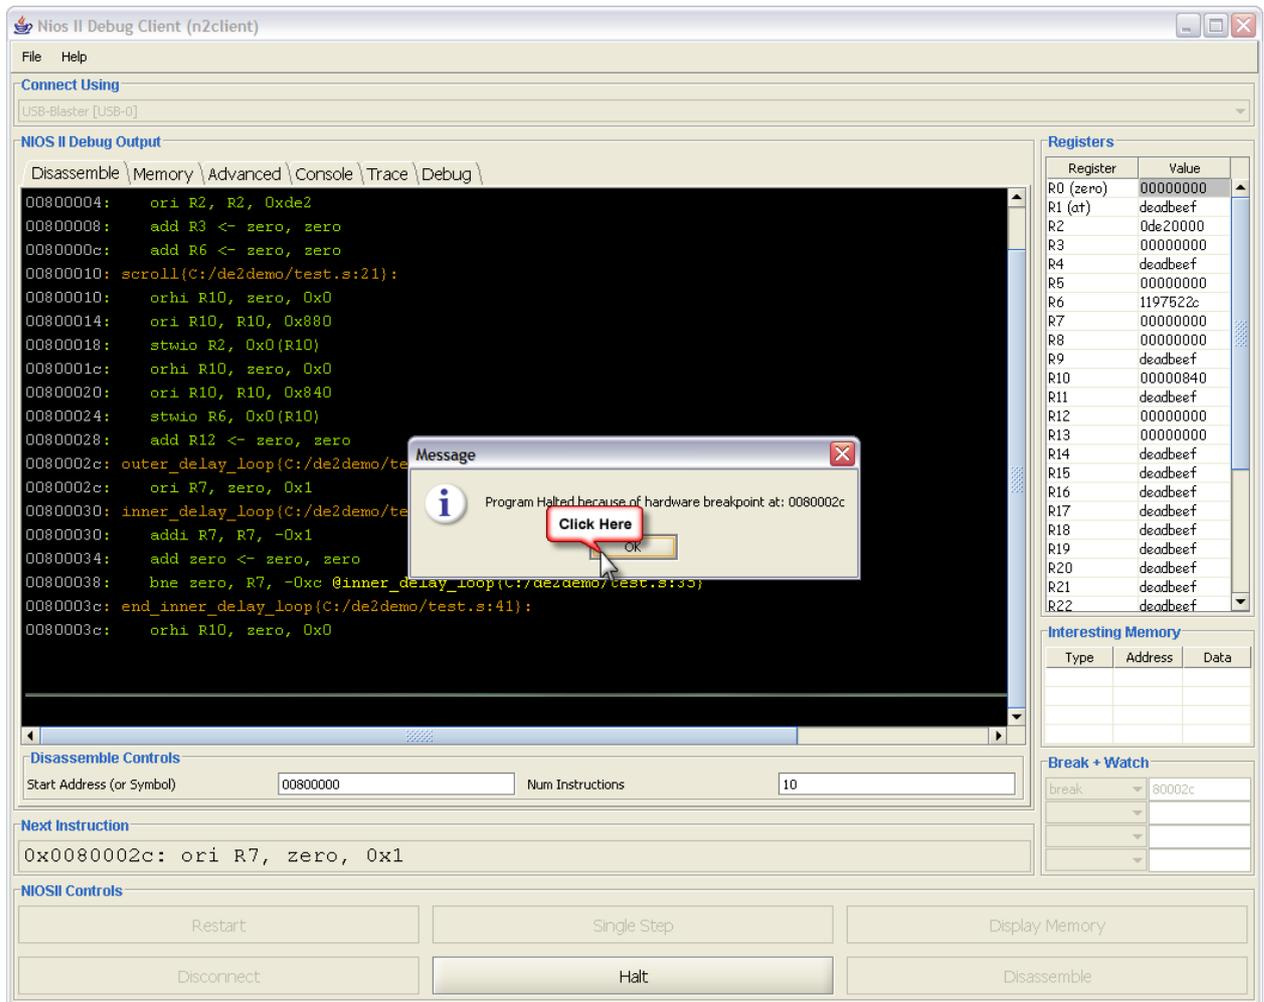

Figure 23: Breakpoint hit.
5. When the target instruction has been reached, the Nios II Debug Client will indicate this condition as shown in Figure 23. Click **OK** to continue debugging.